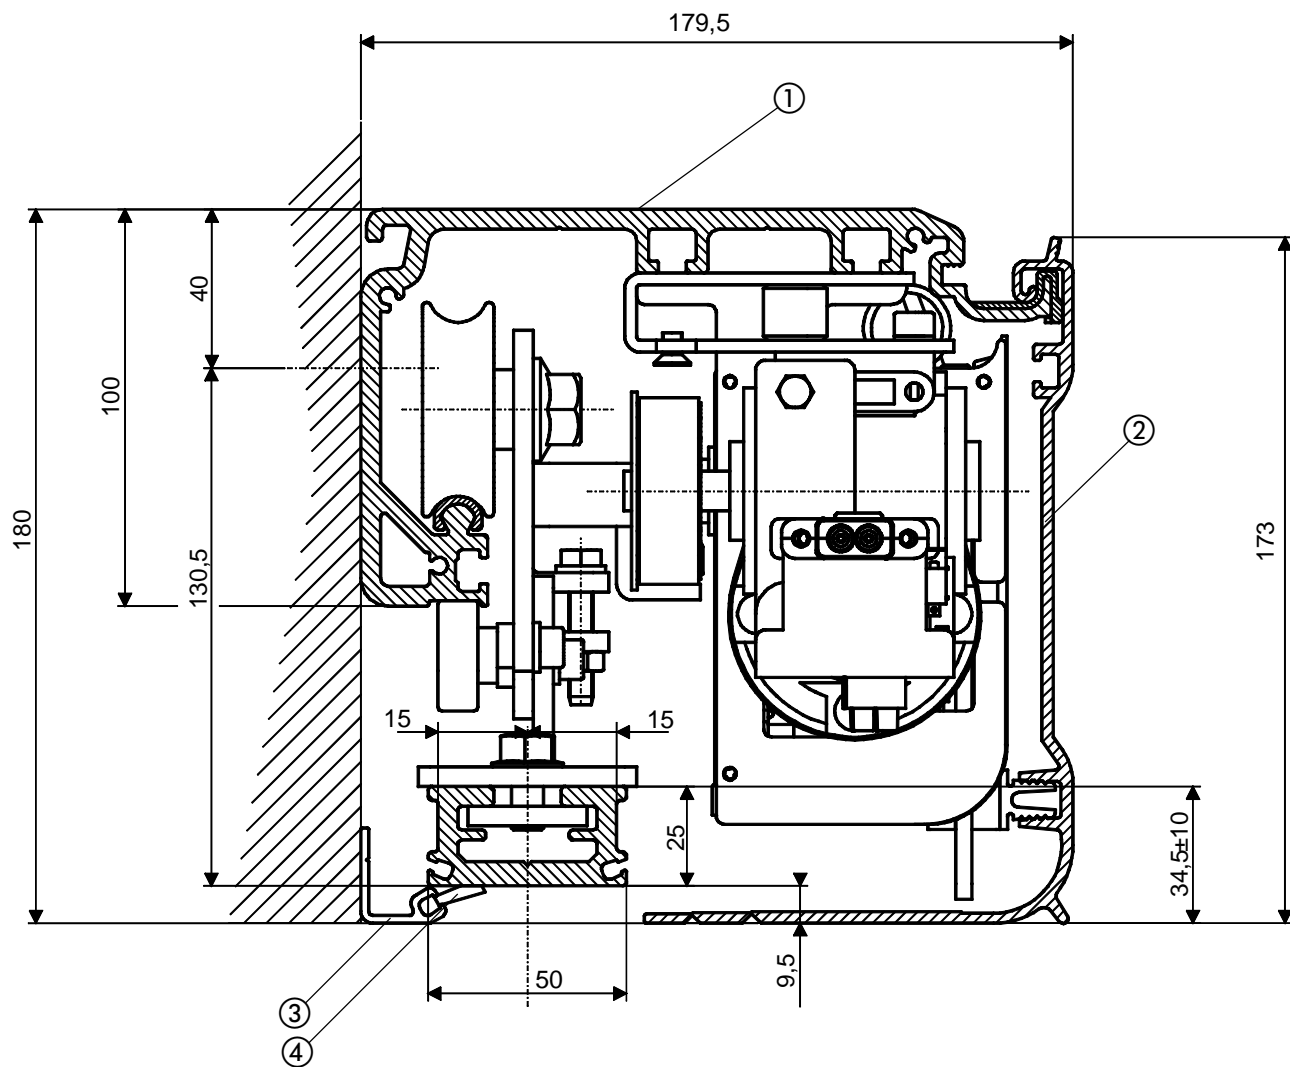

Fig. 2
Profile SM (fig. 2 ref. ①)
Front housing (fig. 2 ref. ②)
Closing profile (fig. 2 ref. ③)
Brush for closing profiles (fig. 2 ref. ④)